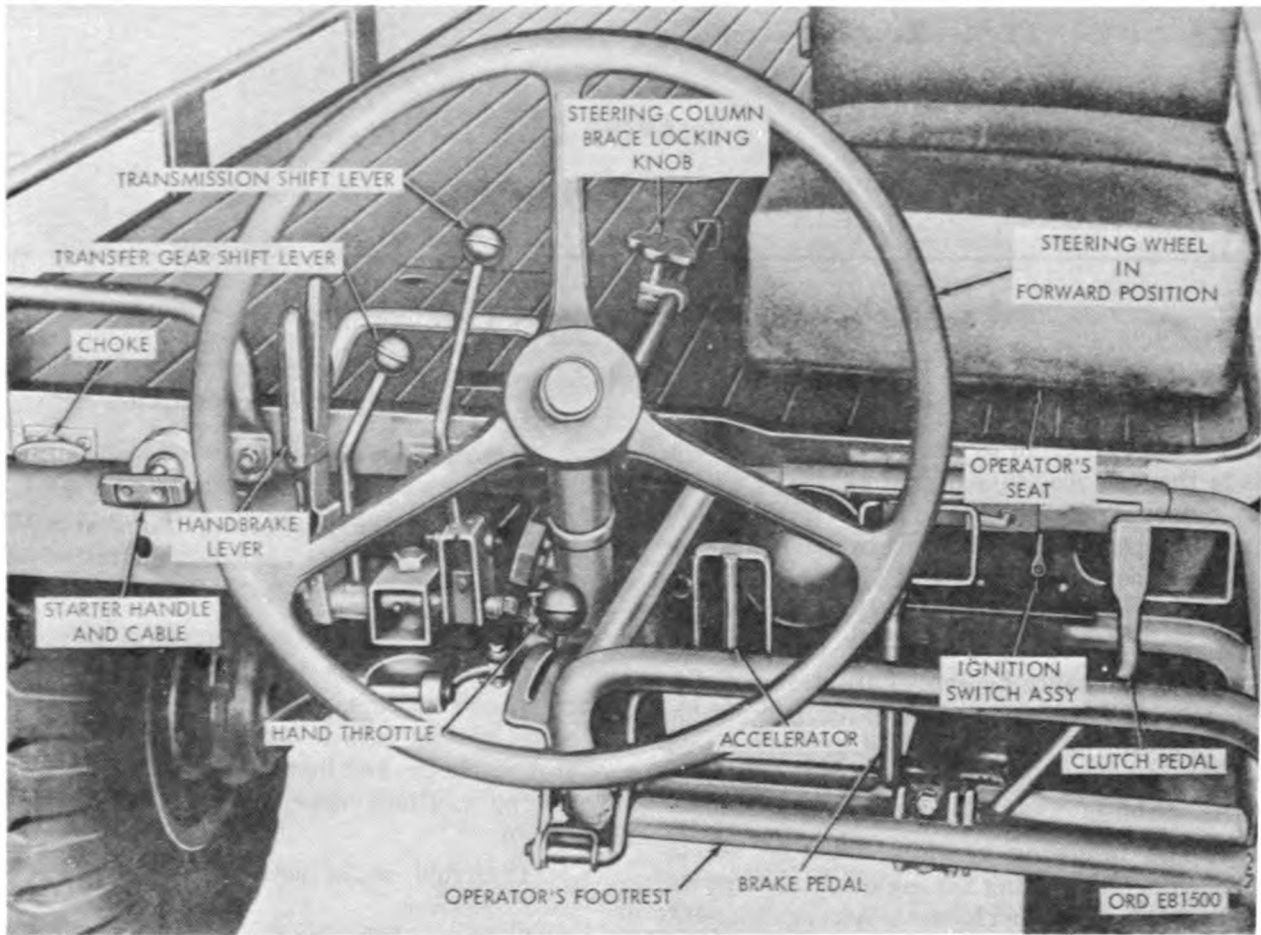

Figure 2-1. Operating controls as viewed from crouching or standing position on the ground in front of the vehicle.
- (1) Service lights, blackout lights, or running lights are not provided for the M274 series vehicles.
- (2) The ignition switch (fig. 2-1) is located on the front of the vehicle on the driver's side.
a. General. Location of the various operating controls for the M274 series vehicles is shown in figures 2-1 and 2-2.
d. Transmission Gearshift Lever. This is the first shift lever (figs. 2-1 and 2-2), located at front of platform at operator's right, and allows for shifting the transmission into reverse or first, second, and third forward gears. Refer to figure 2-6 shifting diagram for transmission shift lever positions.
e. Transfer Gearshift Lever. This is the second gearshift lever (figs. 2-1 and 2-2), located at front of platform at operator's right, and enables the operator to select either a high-speed range for use during normal operation, or a low-speed range for rough or hilly operat-
f. Handbrake Lever. The handbrake lever (figs. 2-1 and 2-2), located at the front of the platform to operator's right, is used to prevent movement of vehicle while parked. The handbrake is also used to slow or stop the vehicle when operating from standing or crouching position off the vehicle.
g. Brake Pedal. The brake (figs. 2-1 and 2-2) is operated by the right foot and is used to slow or stop the vehicle. Depressing the brake pedal applies the brake. When pressure is released, a spring pulls pedal back to brake-released position. The brake pedal can also be operated by hand by pulling pedal toward the operator when operating from a standing or crouching position off the vehicle.
h. Clutch Pedal. The clutch pedal (figs. 2-1
i. Hand Throttle. The hand throttle (figs. 2-1 and 2-2) is used to control engine speed while operating vehicle in reverse from a standing or crouching position in front of the vehicle. The hand throttle employs a friction device to hold the throttle open to any desired position. It must be returned to closed position manually. Moving the hand throttle forward increases engine speed, and moving it rearward decreases engine speed.
j. Accelerator. The accelerator (figs. 2-1 and 2-2) is operated by the operator's right foot to control speed from the seated position. Depressing the accelerator increases the engine
k. Starter Handle and Cable. The starter handle (fig. 2-1) is attached to a cable that runs through a tube to the rear of the vehicle. The starter handle when pulled, turns the engine crankshaft several revolutions, cranking the engine.
l. Choke Control. The choke control knob (fig. 2-1) is located at the front edge of the platform near the right corner. It is connected to the choke valve of the carburetor by a control wire and operates the valve for starting
m. Ignition Switch. The ignition switch (figs. 2-1 and 2-15) is located on the front bed support crossmember, below the front edge of